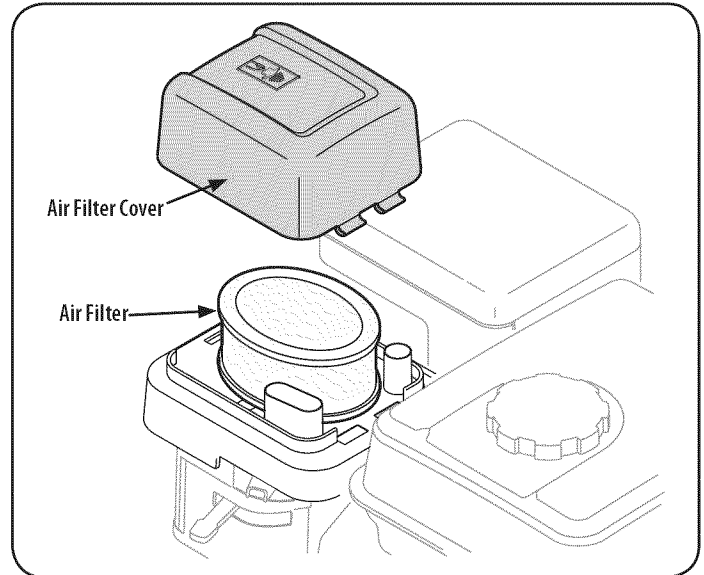

Figure 26
1. Press the tab on the air filter cover and lift the cover. See Figure 26.